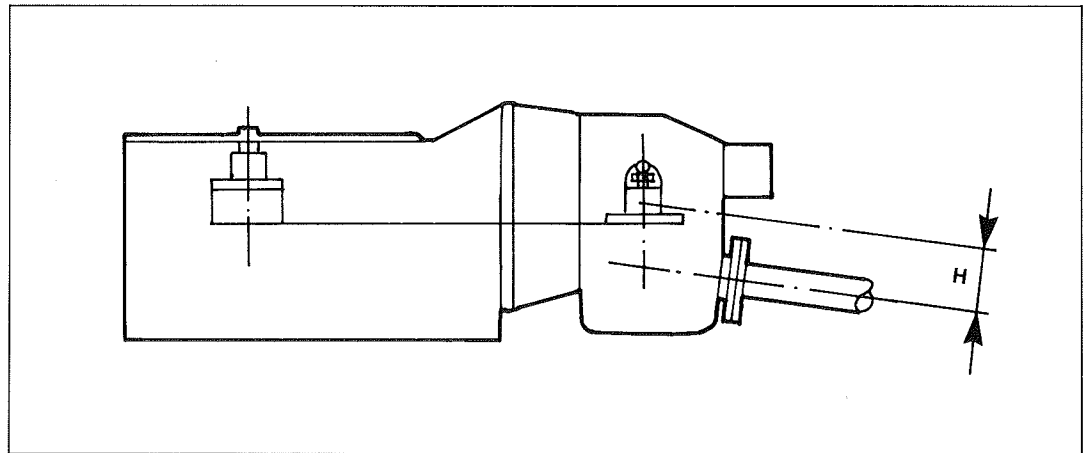

Figure 1
2. When mounting the motor and transmission unit on elastic bearing make sure the distance "H" (Figure 1) between the propeller shaft and elastic bearing is kept as small (maximum 100 mm/3.937 in.) as possible.